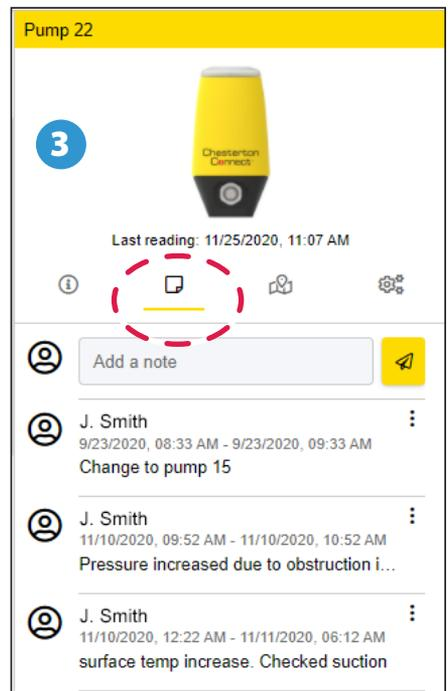

Figure 9a
**3 Add a Note**—add any notes related to the asset or sensor (see figure 9a and 9b):